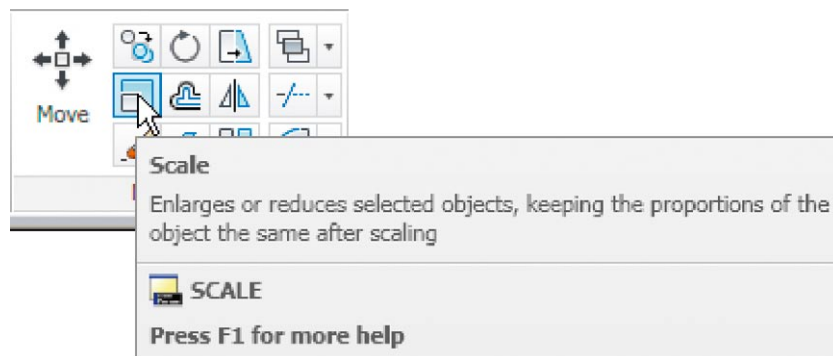

Fig. 5.28 The **Scale** tool from the **Home/Modify** panel
2. Call **Scale** – *left-click* on its tool icon in the **Home/Draw** panel (Fig. 5.28), *pick* **Scale** from the **Modify** drop-down-menu or *enter* **sc** or **scale** at the command line which then shows: